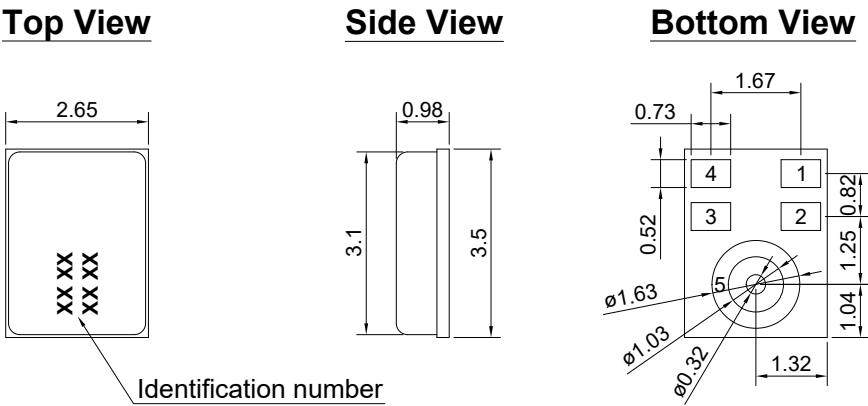

Figure 8. Mechanical Layout of SMO08C-38/1086
- 6.3.1. Layout and Dimension : See Section 9, Figure 8